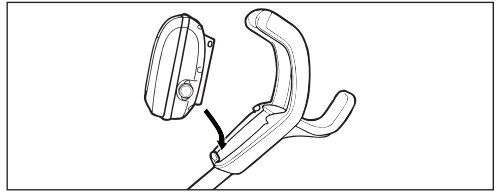

Figure 1. Align Control Unit with Caddy Hook
1. Align the bottom of the control unit with the notch at bottom of the control unit hook on the caddy (*Figure 1*).